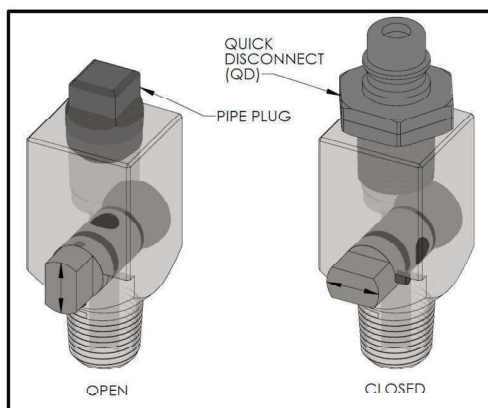

Figure 3
4. Close all sealant injection ports as shown in Figure 3.
5. To make sealant injection faster and easier on fittings requiring more than 2 j-sticks, quick disconnect adapters have been added to the newest PLIDCO Sealant Injection Pump kits. Screw in the quick disconnect adapters directly into the sealant injection port as shown in Figure 3. If you have an existing unit, and would like to upgrade, contact PLIDCO regarding the upgrade kit.